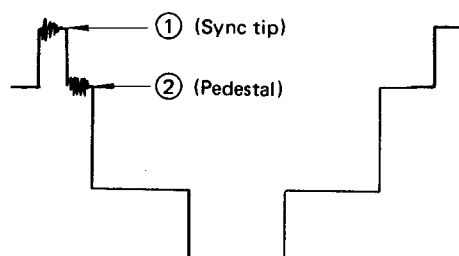

Figure 96.
3. Adjust R-411 (limiter balance control) so that carrier components ① and ② shown in the figure will be minimum. (Fig. 96)